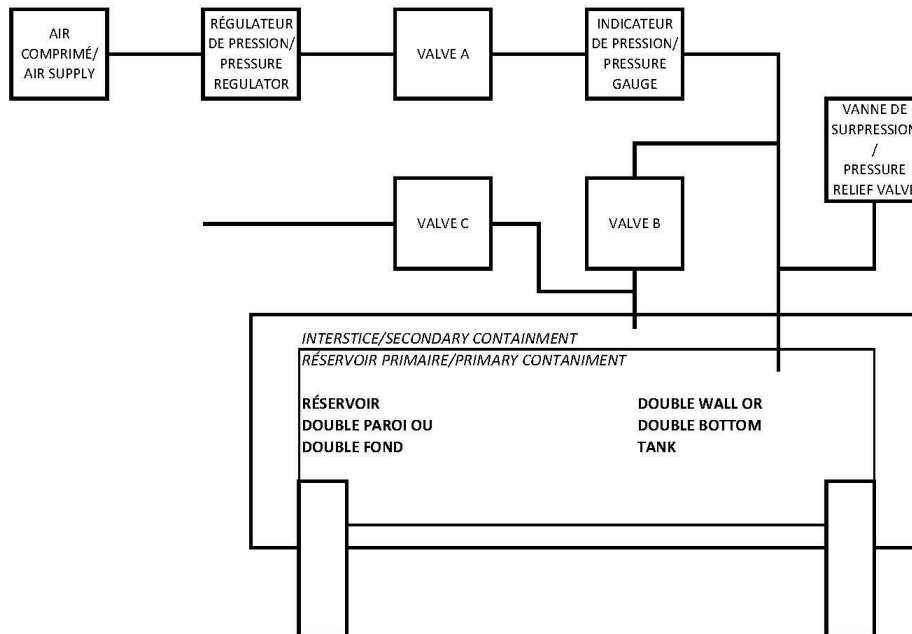

Figure 2 Double wall tank pressurizing procedure - Procédure test de pression pour réservoir double paroi sans interstice sous vacuum
- 1) Install the test piping as Figure 2. Close valves A and B. Seal all remaining openings temporarily to maintain the pressure. Make sure the compressed air supply is closed.
- 1) Installez la tuyauterie de test tel que la figure 2. Fermez les valves A et B. Scellez temporairement les ouvertures restantes pour maintenir la pression. Assurez-vous que l'air comprimé est fermé.
This is a suggested piping configuration; your final set up may differ from the one shown in Figure 2. This setup and procedure are only suited for **double wall or double bottom tanks without interstice under vacuum.**
This is a suggested piping configuration; your final set up may differ from the one shown in Figure 2. This setup and procedure are only suited for **double wall or double bottom tanks with interstice under vacuum.**